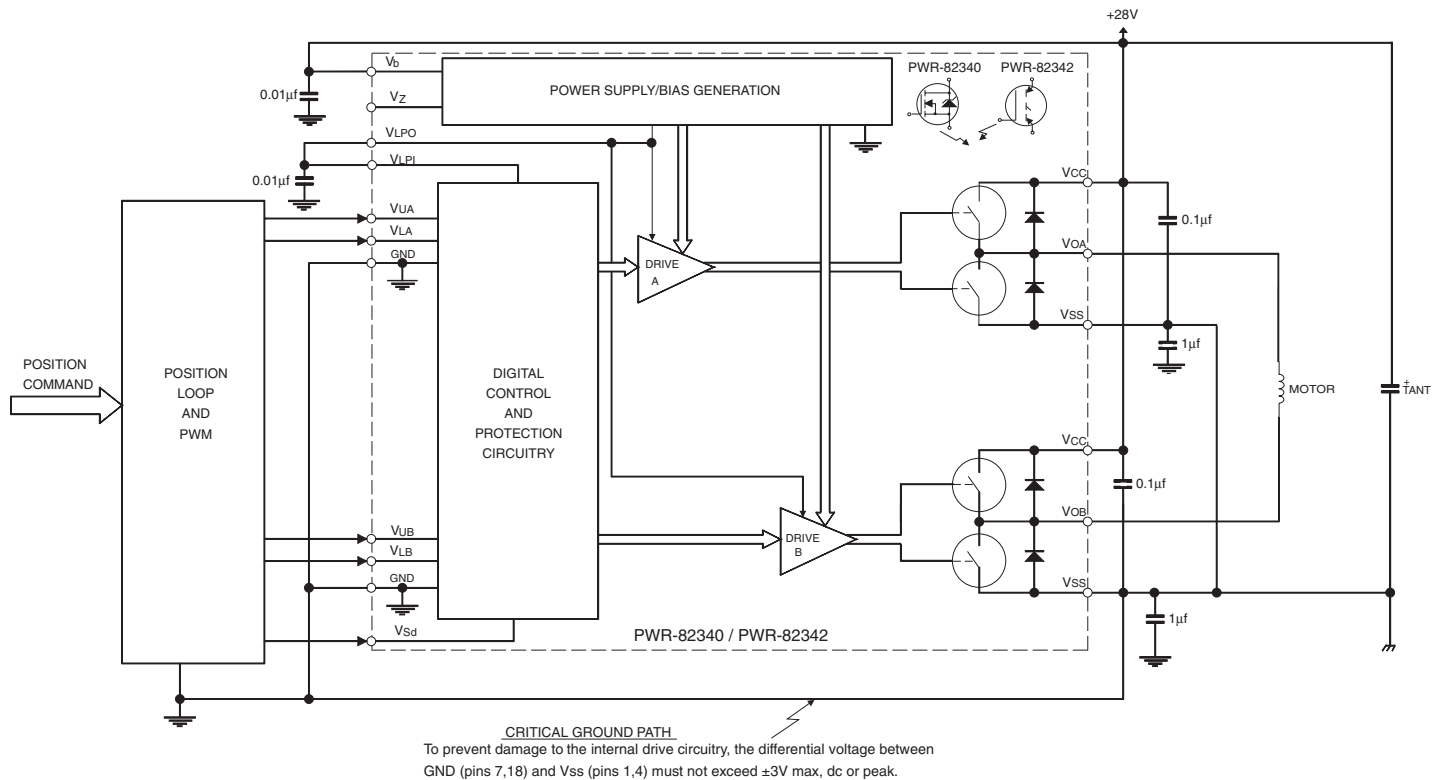

FIGURE 8. PWR-82340/342 TYPICAL INTERFACE WITH A MOTOR AND PWM
(VLPI) for the digital circuitry inside the hybrid. **A 0.01 uF, 50 V ceramic capacitor must be placed between this pin (12) and GND as close to the hybrid as possible.** When using 15 V control circuitry, the logic power input (pin 12) can be connected directly to the logic power output (pin 11) of the hybrid. There is no need for an additional external power supply. **When using 5 V control logic, an external +5 VDC supply must be connected between pin 12 of the hybrid, and GND — leave Pin 11 open (N/C).** The control circuitry can be as simple as a PWM, or as sophisticated as a microprocessor or custom ASIC, depending on the system requirements. The Block Diagram in FIGURE 8 shows a typical interface of the PWR-82340 and PWR-82342 with a motor and control logic in a Servo-Amp System.